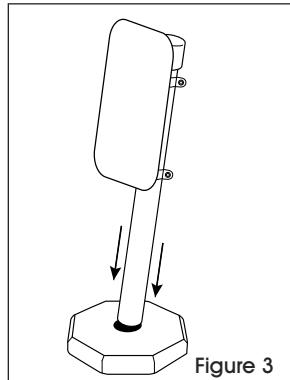

Figure 3
7. Holding the post at a slight angle, press fit the post into the base. (See Figure 3)